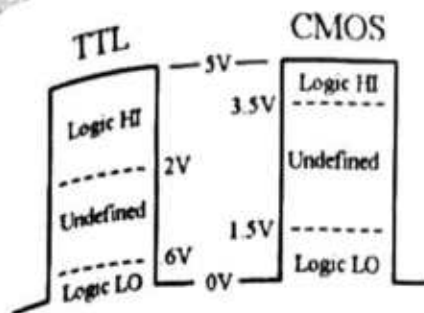

Figure 1
A TTL device is said to be zero (0) when the voltage is between 0-volts and +.6-volts. For ease of mind we can say a high exists between 40% and 100% of V_{cc} , and a low exists between 0% and 10%. (+.6 is more than 10% of 5, but it's easier to remember that way.) So what happens if the voltage is between 10% and 40%? This is a condition known as 'undefined.' See Figure 1.
A digital signal is either ON or OFF with nothing in between. But there is an 'in between.' The region between logic zero and logic one causes improper operation of digital circuits and can be visualized as a top hat shown in Figure 1.